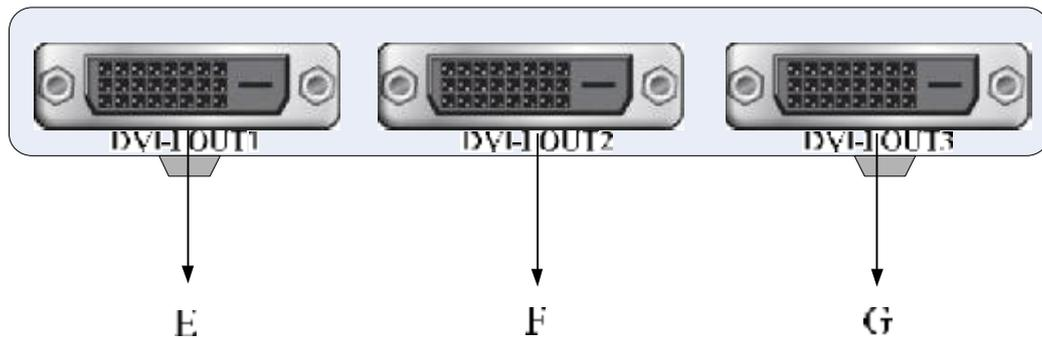

Figure 2 Back panel
2. Connect the three outputs DVI-I interface E, F, G (refer to **Figure 2** on page 2) to three monitors through DVI cables. If the monitor you are using doesn't support DVI input, please check following items: